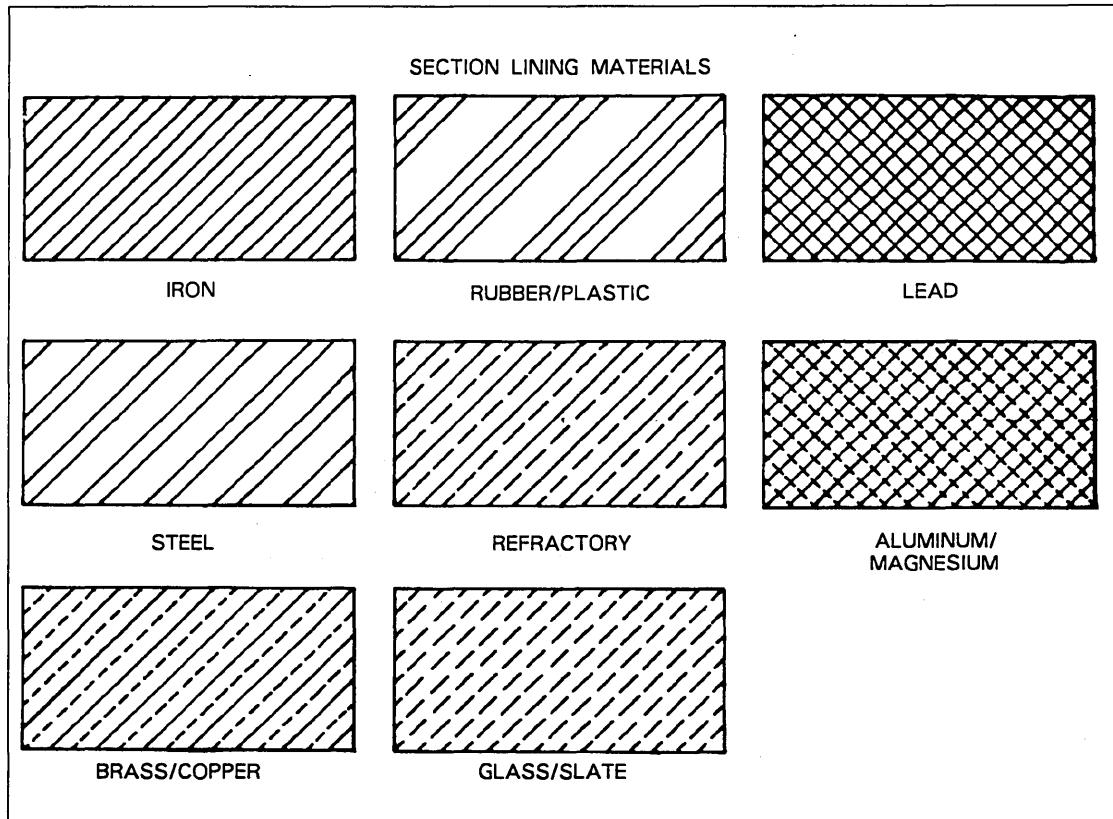

Figure 1-14. Section Lining Material Types
- 1 To select the material type used for section lining. Figure 1-14 shows a sample of each type.